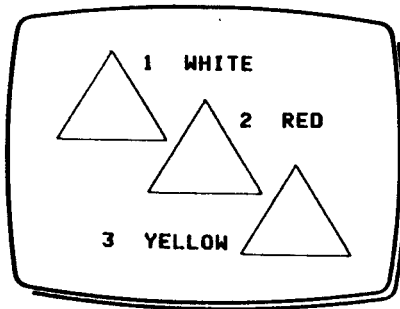

Fig 2
- 2 Draw a triangle with **WHITE** lines, (1) in Fig 2.
- 4 Draw a second triangle, (2) in Fig 2.